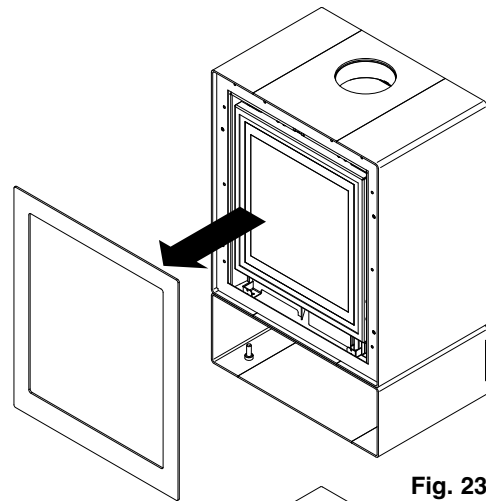

Fig. 23
1. Remove the magnetic trim from the front of the stove (Fig. 23).